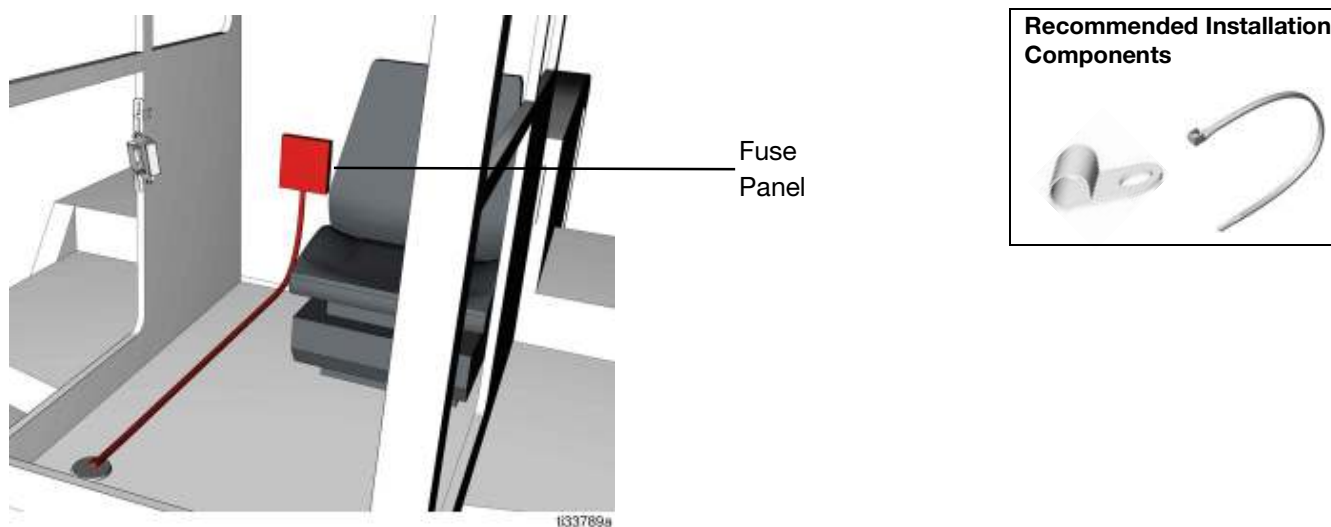

FIG. 17
- If the pump uses a controller, route the pump power cable into the cab, toward the fuse panel (FIG. 17). See **Wiring Guidelines**, page 20.